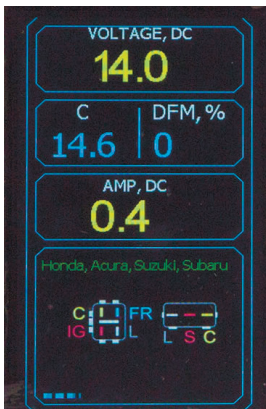

Fig. 15. MS004COM
- **C:** indicator of set stabilizing voltage of a voltage regulator (voltage regulators with C terminal only) **(Fig. 15)**.